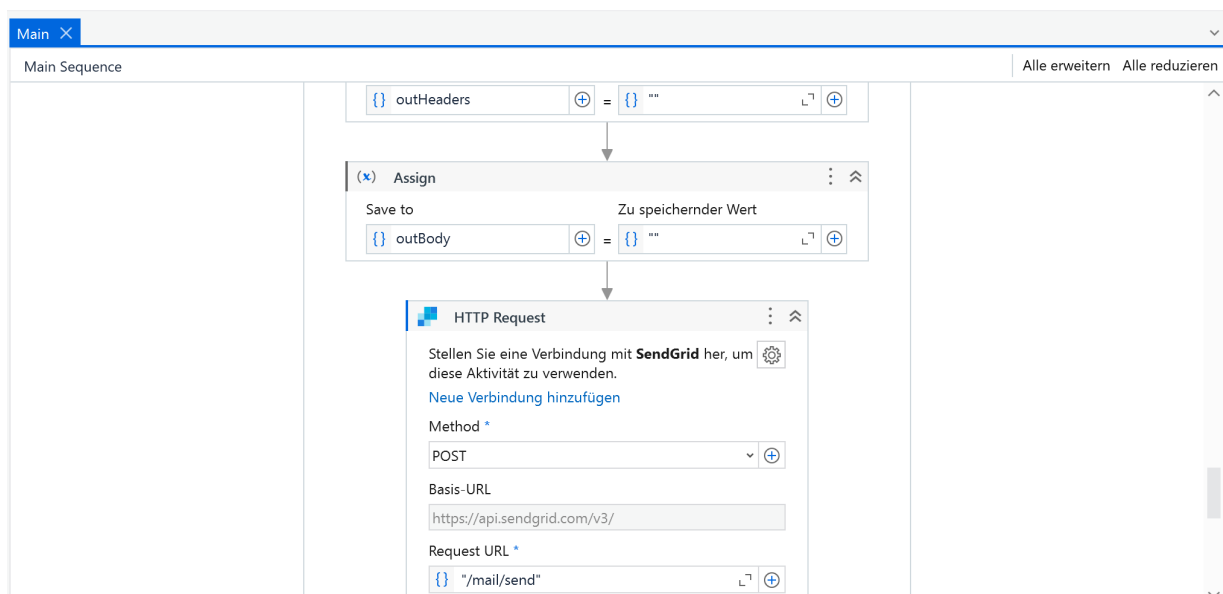

Figure 4: Screenshot for Sendgrid activity
- Finally you have to connect Sendgrid. Scroll down to the activity "HTTP Request" (scroll down to the end of the xaml file - to the end of the last sequence) and connect Sendgrid. If you can't find it, look at figure 4.